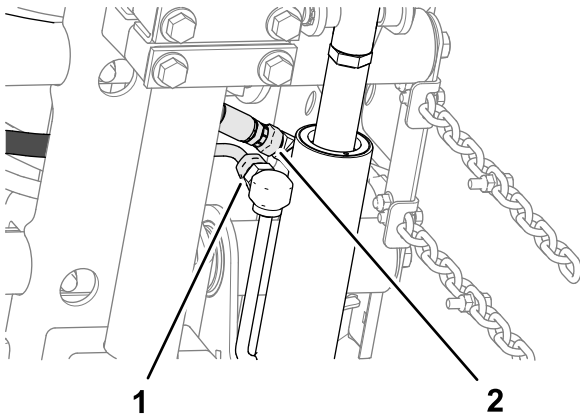

Figure 14
2. Align a spacer between the carrier plate and mounting plate (Figure 14), and loosely assemble the plates and spacer with a carriage bolt (3/8 x 1-1/4 inches) and flange locknut (3/8 inch).